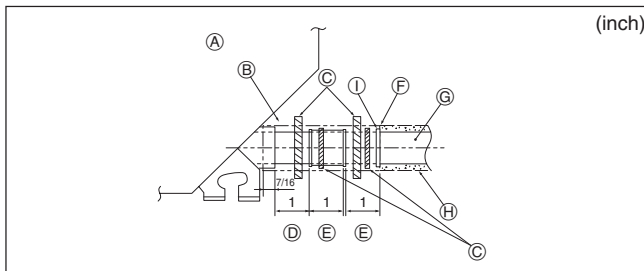

Fig. 5-4
5.4. Pipe connection (Fig. 5-4)